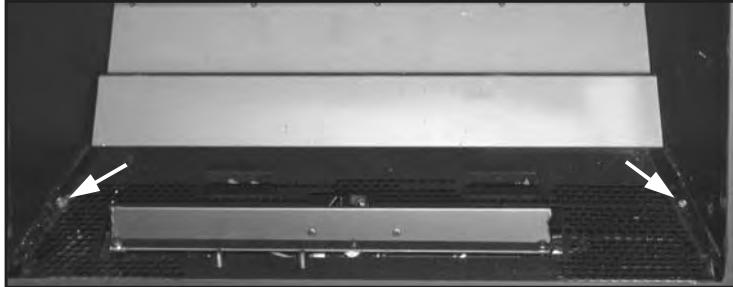
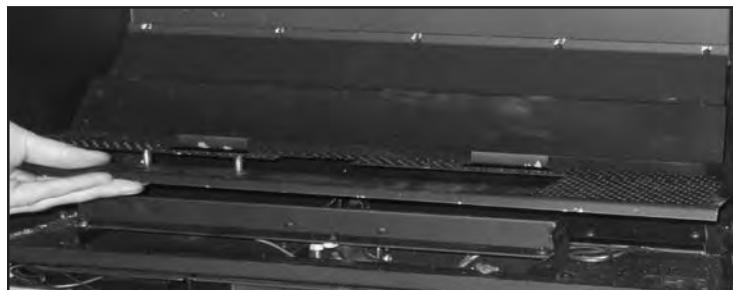

Figure 17: Screws Holding Burner Tray in Place.
Figure 18: Removing Burner Tray.
3. Using a T-20 screwdriver remove the two (2) screws that hold the burner tray in place (pointed out in Figure 17). Pick up the burner tray at the front (see Figure 18) then pull it out of the firebox.